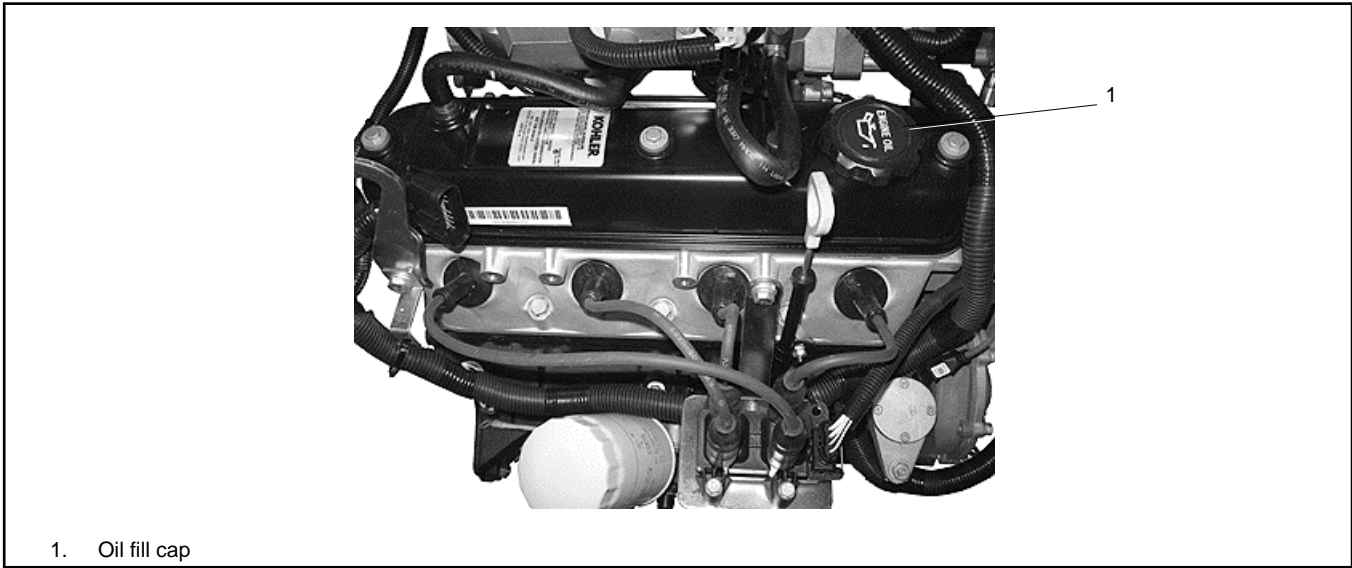

Figure 19 Oil Fill Cap
- 6. If the oil level is below L, check for leaks. If no leaks are found, open the oil fill cap. Wipe the oil fill cap clean, and add oil up to the F mark. See Figure 19.